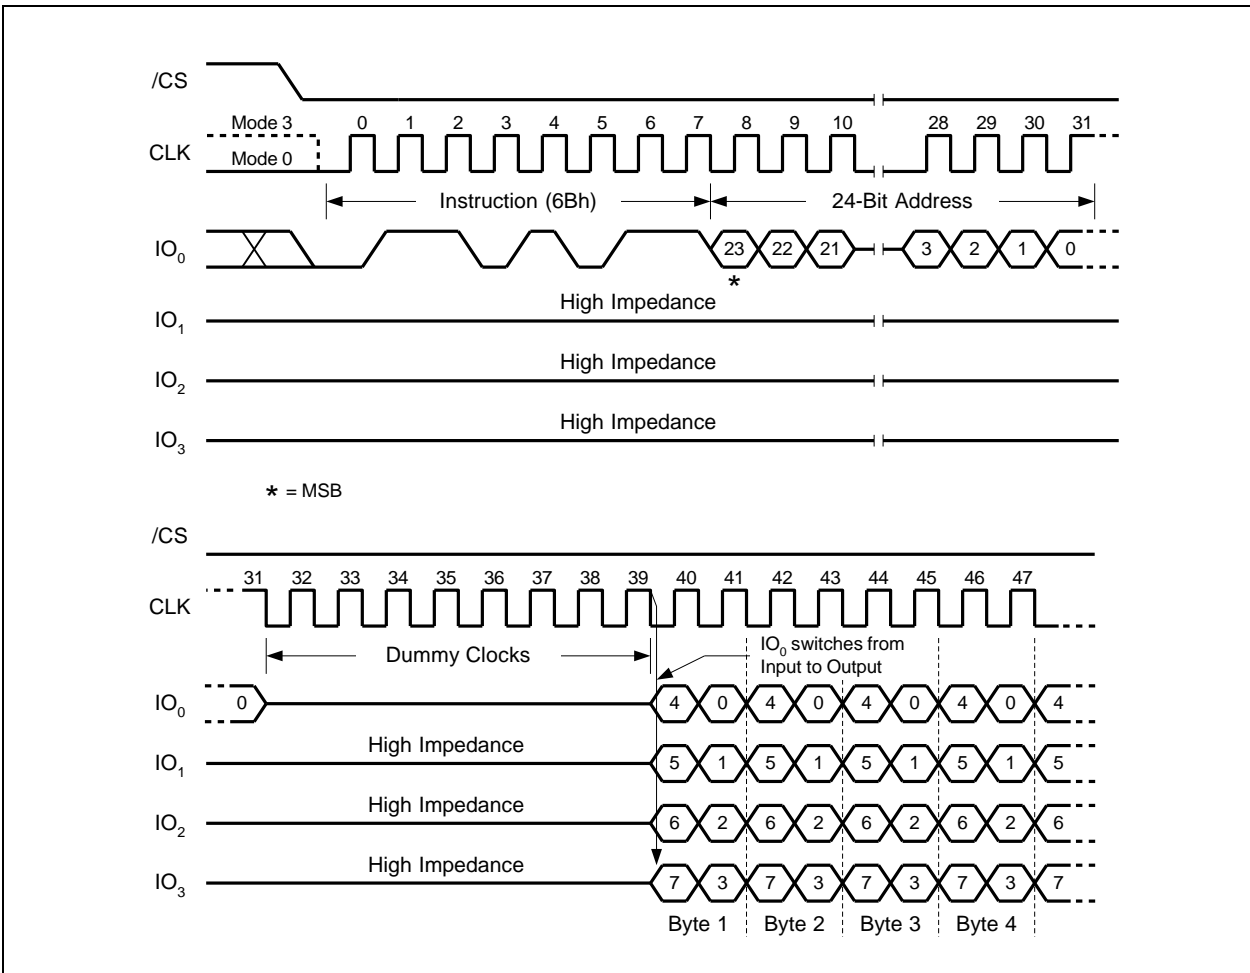

Figure 20. Fast Read Quad Output Instruction
8.2.9 The Fast Read Quad Output instruction can operate at the highest possible frequency of FR (see AC Electrical Characteristics). This is accomplished by adding eight “dummy” clocks after the 24-bit address as shown in Figure 20. The dummy clocks allow the device’s internal circuits additional time for setting up the initial address. The input data during the dummy clocks is “don’t care”. However, the IO pins should be high-impedance prior to the falling edge of the first data out clock. \*